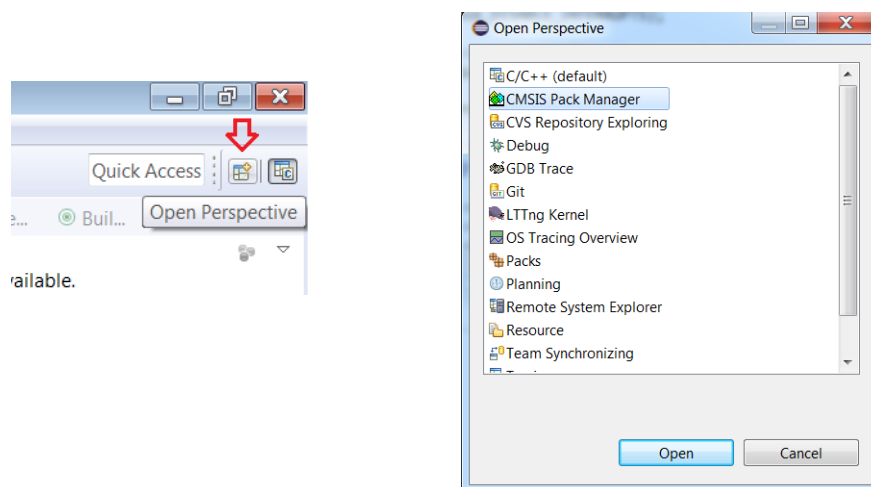

Figure 3. Opening the CMSIS Pack Manager Perspective
3. On the top right corner, click on the **Open Perspective** icon, select **CMSIS Pack Manager**, and click **OK** (see Figure 3).